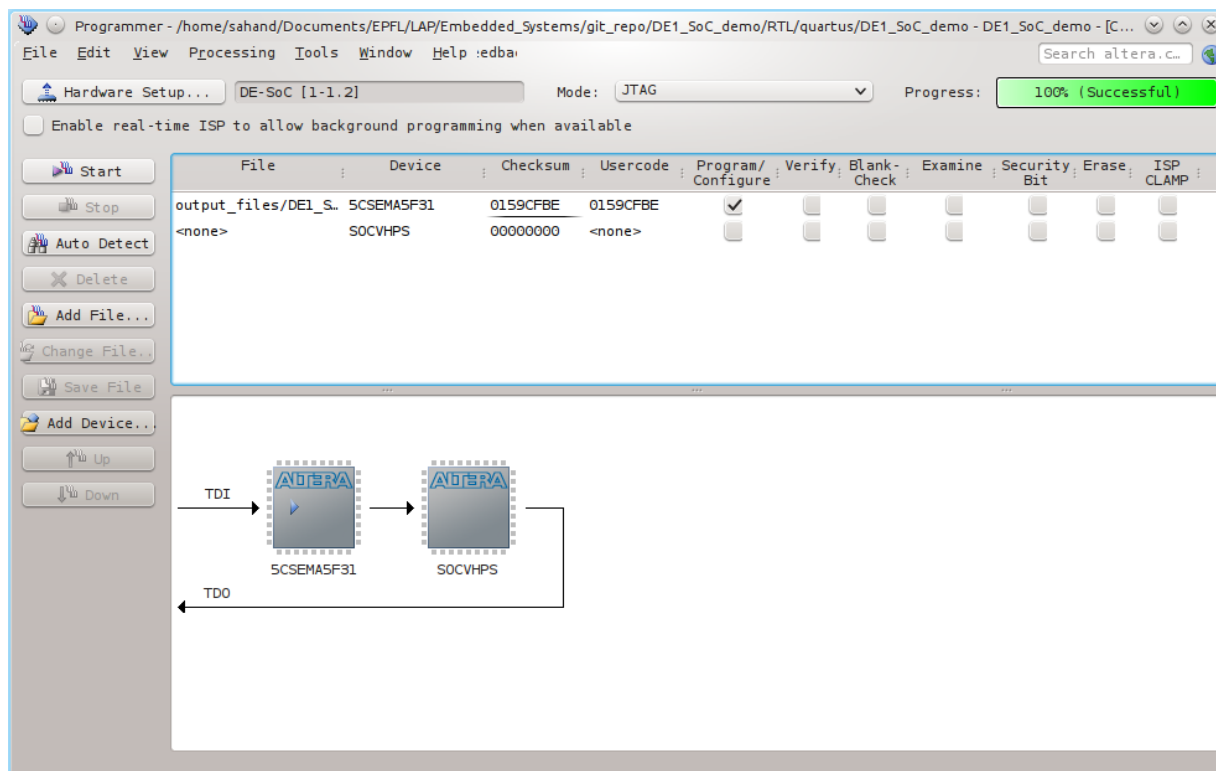

Figure 7-18. Programming the FPGA
41. You should now be able to program the board. Don’t forget to enable the “Program/Configure” checkbox before attempting to press the “Start” button, as shown in Figure 7-18.